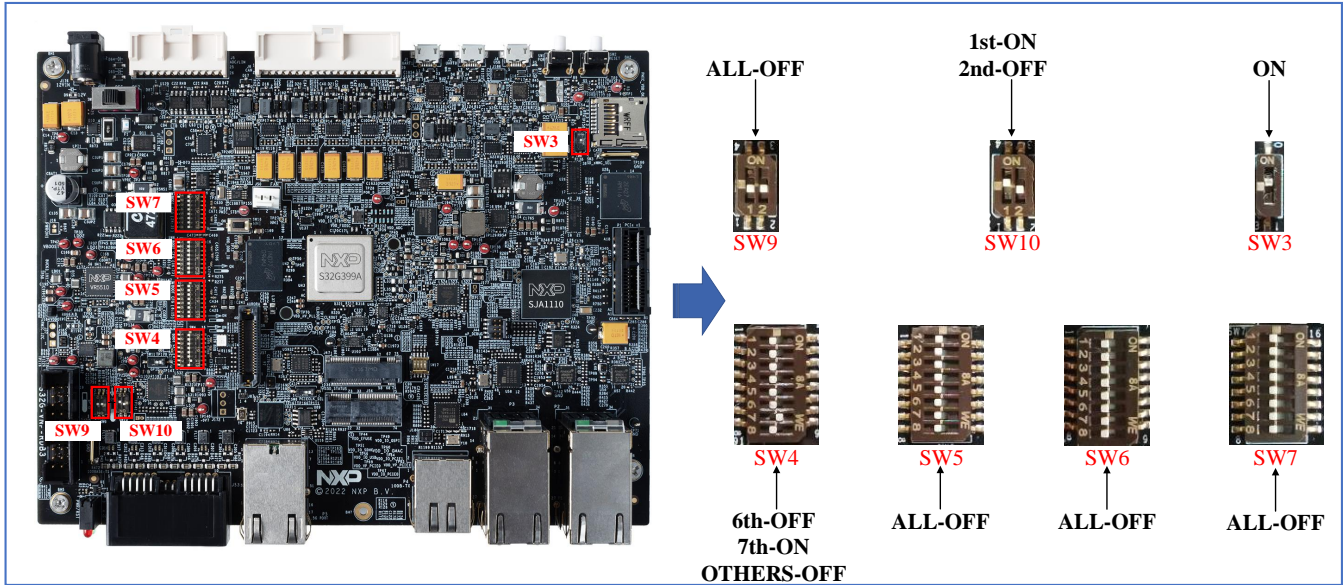

Figure 3.3 SD card boot switch setting
Figure 3.3 shows the switch setting for SD card boot.
3. Set S32G-VNP-GLDBOX3 in SD card boot mode(refer to the Figure 3.3).